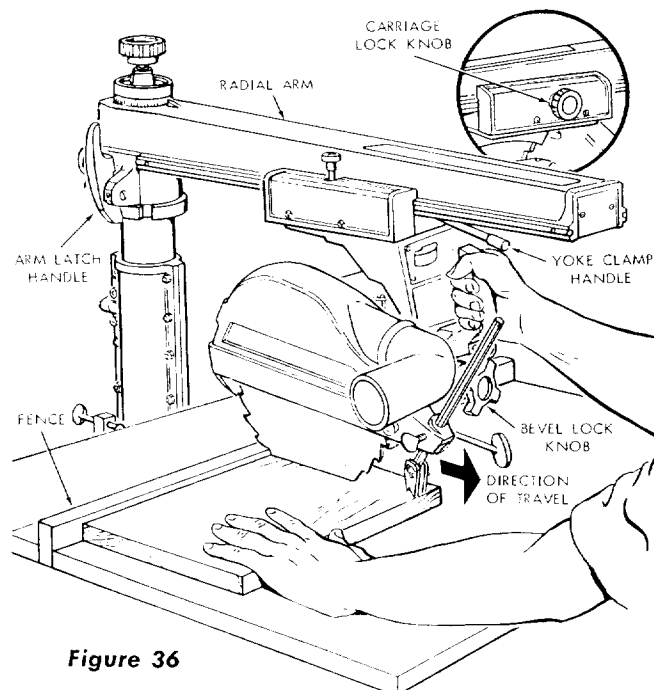

Figure 36
1. Loosen the carriage lock knob (figure 36) and move the carriage to position the saw blade just forward of the rip fence.
7. Operate the saw in the same manner as shown in figure 36 and complete the blade clearance groove in the table rip fence as follows:
Crosscutting is the process of sawing the workpiece by pulling the saw blade through it and using the fence as a support for the edge of the workpiece. (See figure 36.) Never crosscut freehand.